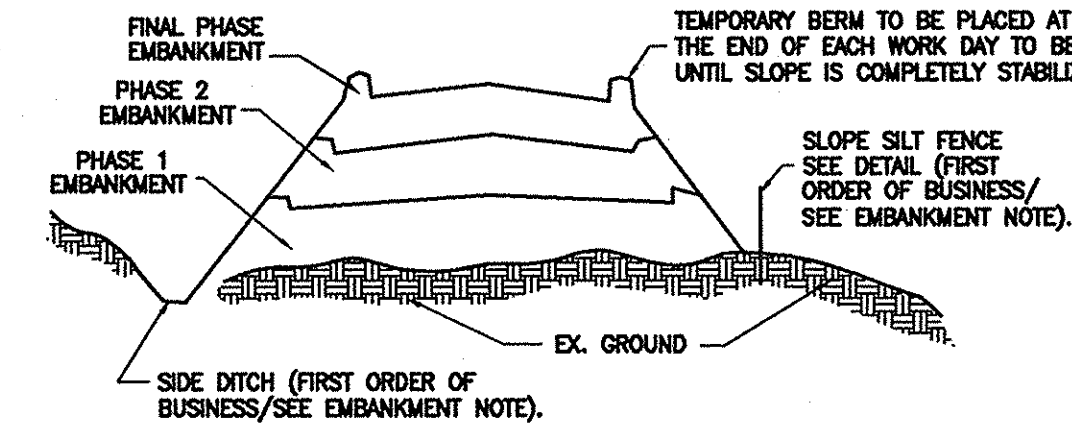

Figure 5 Incremental Stabilization - Embankment Fill Comply with MD 378 Specifications.
- Construction sequence: Refer to Figure 5 (below):
- Select one or more of the species or mixtures listed in Table 26 for the appropriate Plant Hardiness Zone (from Figure 5) and enter them in the Temporary Seeding Summary below, along with application rates, seeding dates and seeding depths. If this Summary is not put on the plans and completed, then Table 26 must be put on the plans.
- Select one or more of the species or mixtures listed in Table 25 for the appropriate Plant Hardiness Zone (from Figure 5) and enter them in the Permanent Seed Summary below, along with application rates and seeding dates. Seeding depths can be estimated using Table 26. If this Summary is not put on the construction plans and completed, then Table 25 must be put on the plans. Additional planting specifications for exceptional sites such as shorelines, streambanks, or dunes or for special purposes such as wildlife or aesthetic treatment may be found in USDA-SCS Technical Field Office Guide, Section 342 - Critical Area Planting. For special lawn maintenance areas, see Section IV Sod and V Turfgrass.